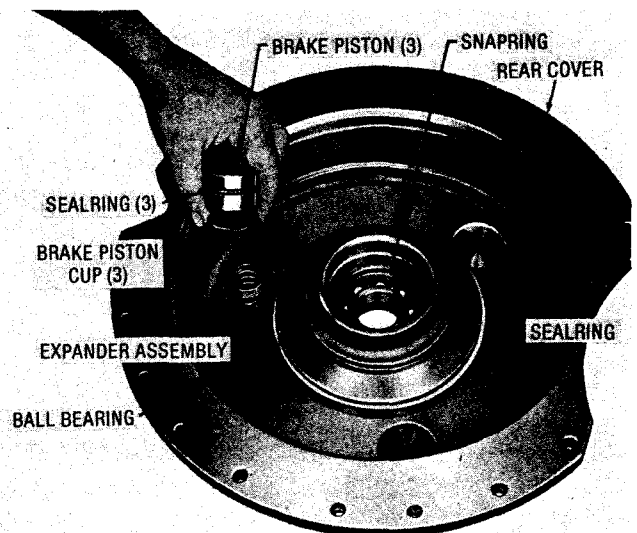

Fig. 6-28. Installing brake piston components in rear cover (TTB)
(2) Lubricate the brake piston components with hydraulic brake fluid prior to installation into their bores. Install the three expander assemblies, brake piston cups (flat side upward), and brake pistons (flat side first), with sealrings assembled, into the three bores in the rear cover (fig. 6-28).
(3) Install a new Teflon sealring, outer lip upward, into the groove in the inner hub of the rear cover (fig. 6-28). Install the bearing and snapping into the rear cover.